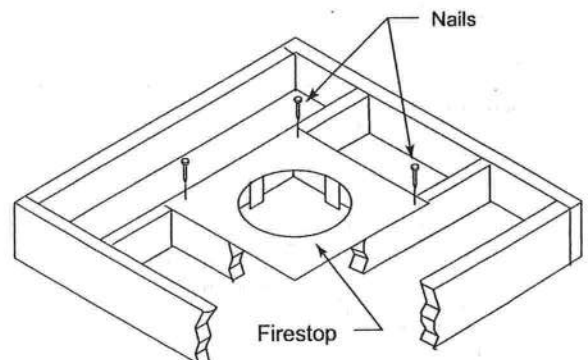

Figure 24 -
1. Determine the route your vertical venting will take. If ceiling joist, roof rafters or other framing will obstruct the venting system, consider an offset. Refer to Figure 24 to avoid cutting load bearing members.
NOTE: Pay special attention to these installation instructions for required clearances (air space) to combustibles when passing through ceilings, walls, roofs, enclosures, attic rafters, etc. Do not pack air spaces with insulation. Also note maximum vertical rise of the venting system and any maximum horizontal offset limitations. Offsets must fall within the parameters shown in Figures 24 and 25.